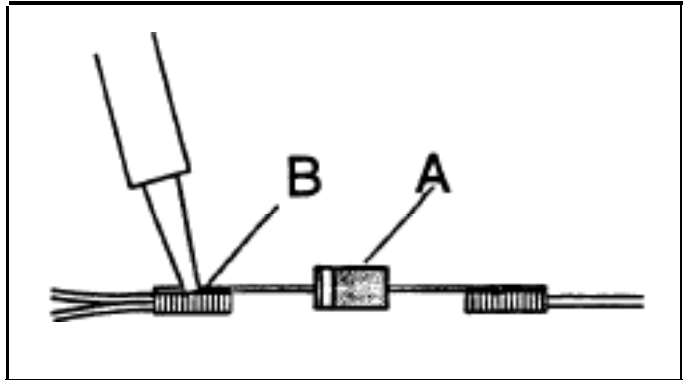

Figure 8. A – New diode
5. Solder the remaining lead of the new diode to the other crimp, Figure 8.